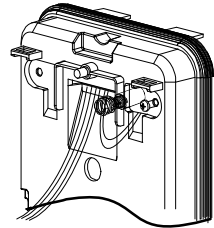

Figure 4
6. Insert external wires and tamper wires through internal base (Figure 4).